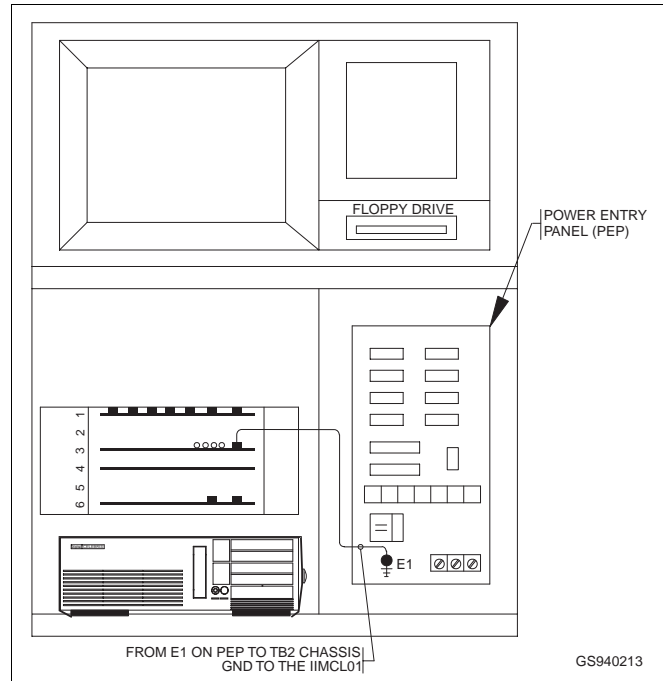

Figure 8-4. Power Entry Panel (PEP) Removal
1. In the front of the cabinet, turn off the main circuit breaker on the Power Entry Panel (PEP) to shut off power to the IIOIS12/IIOIC12. Check the power indicator to see if power is removed from the system. See Figure 8-4 when using this procedure.